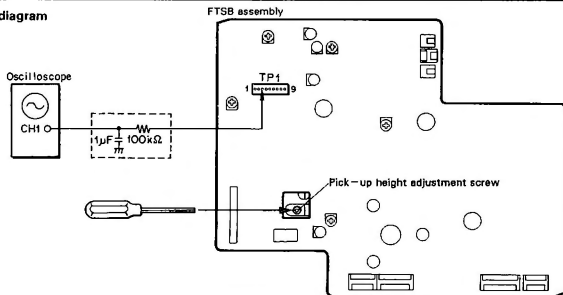

Fig. 3-1
5. Perform the level adjustment by changing the screen to the service mode and confirming that the tilt function is OFF. Move the tilt motor UP/DOWN by using the [SKIP REV/FWD] key on the remote control unit so that the focus return voltage described above becomes the same value as the inside and outside of the disc. (Fig. 3-1)